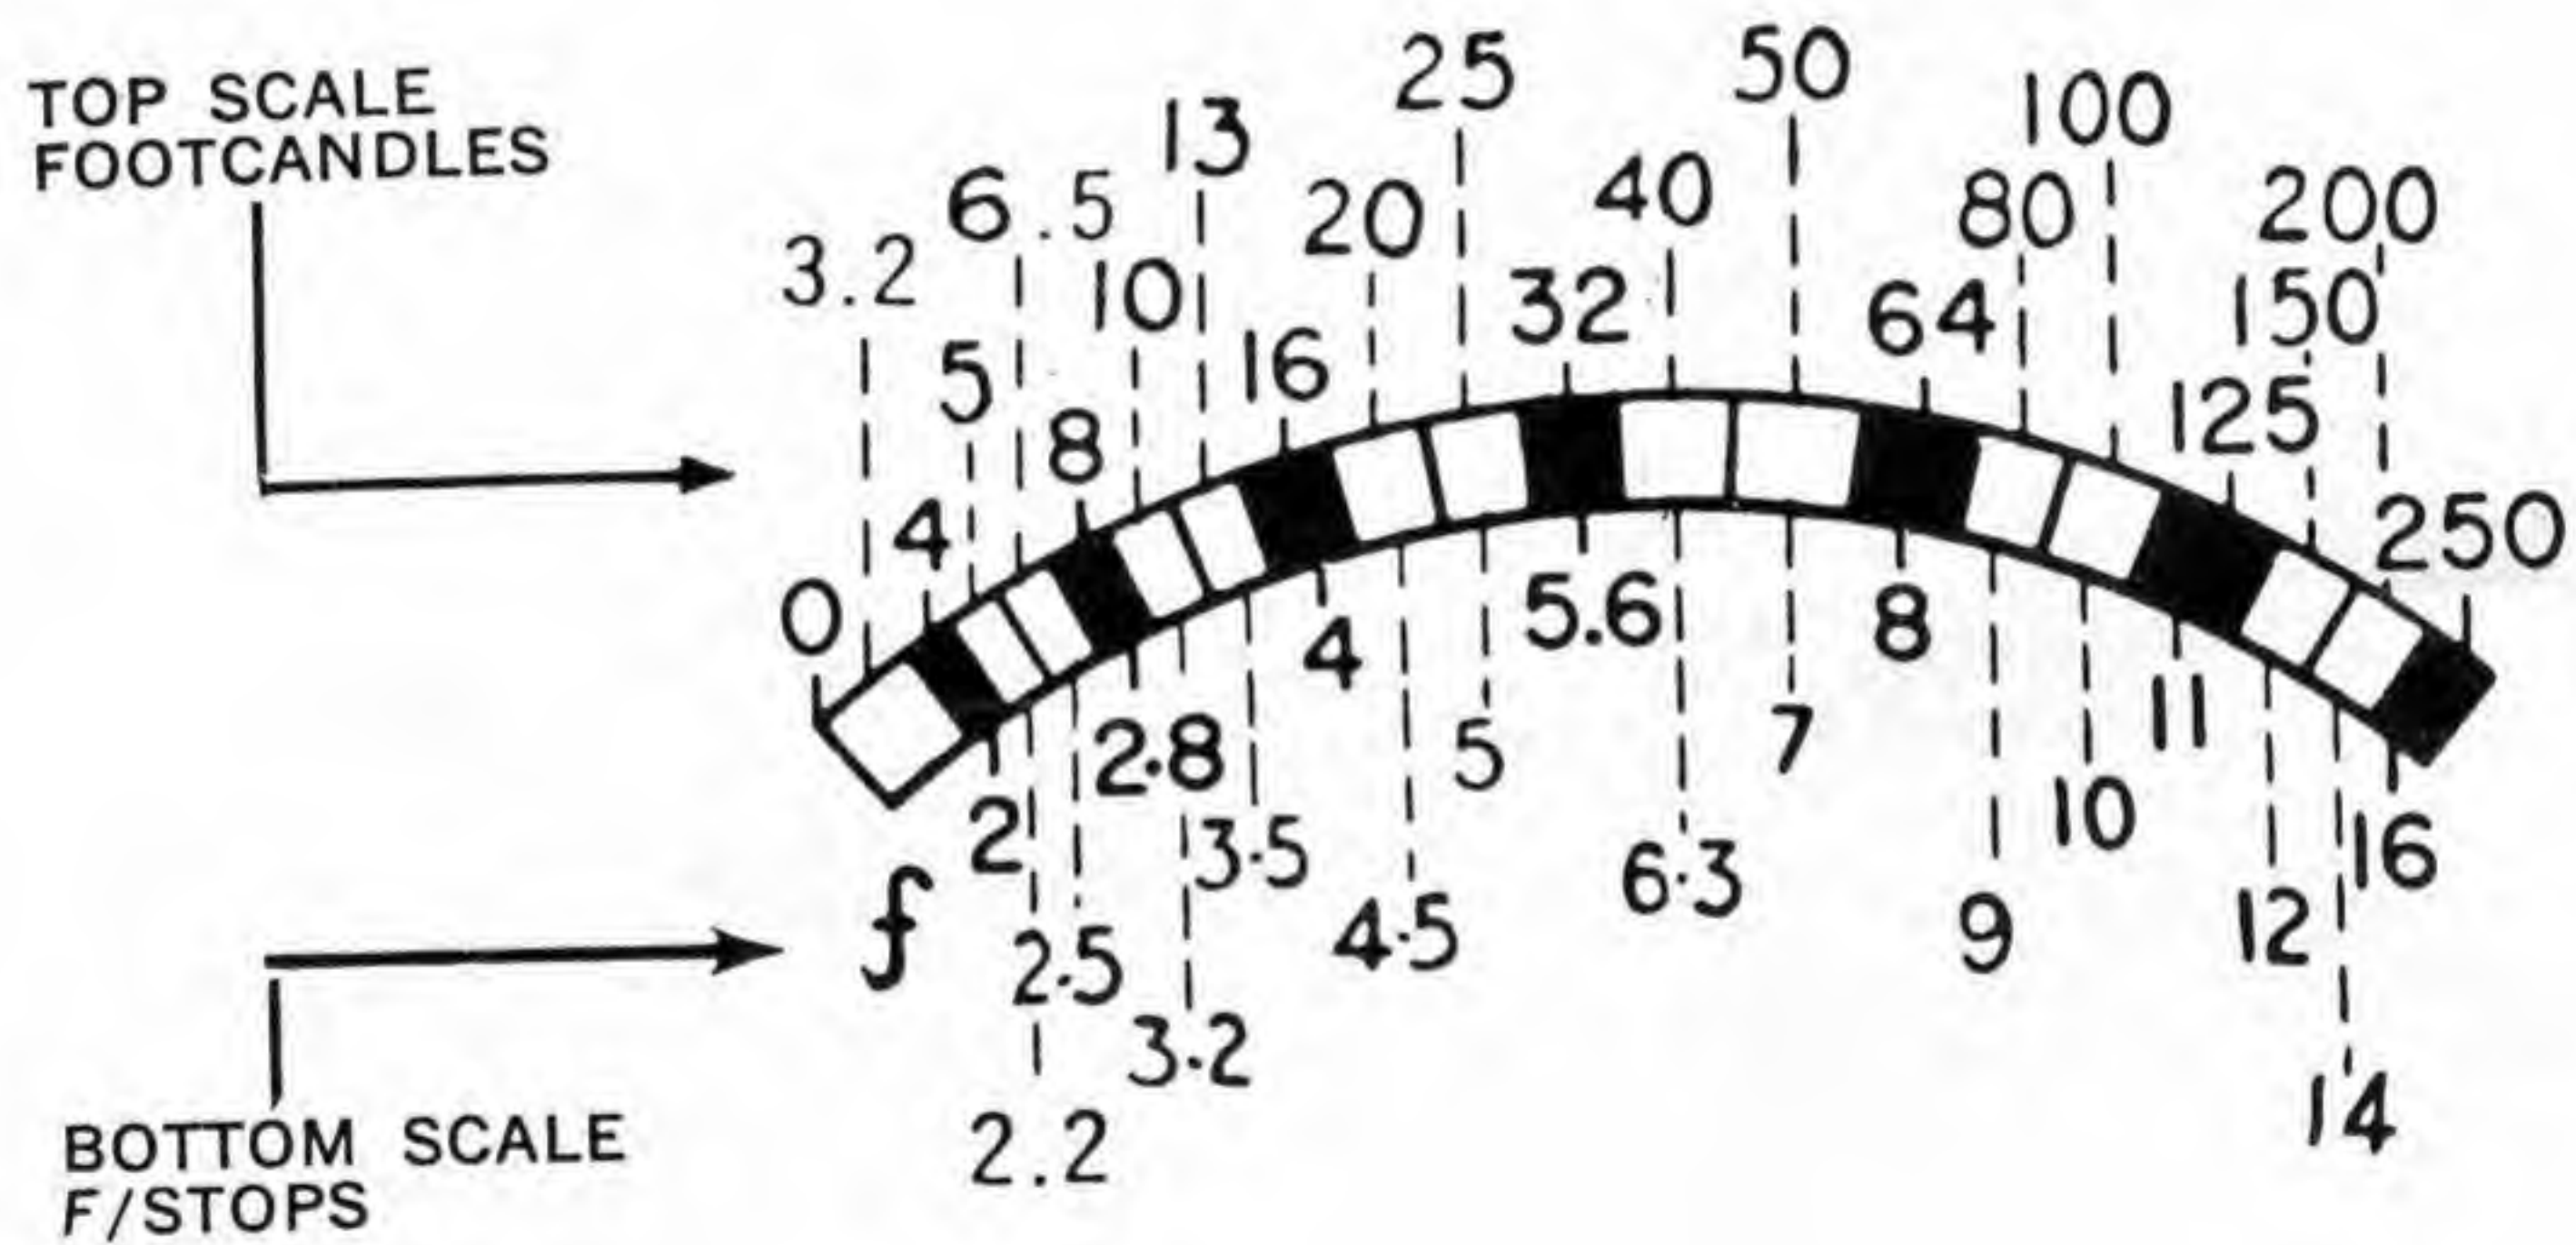
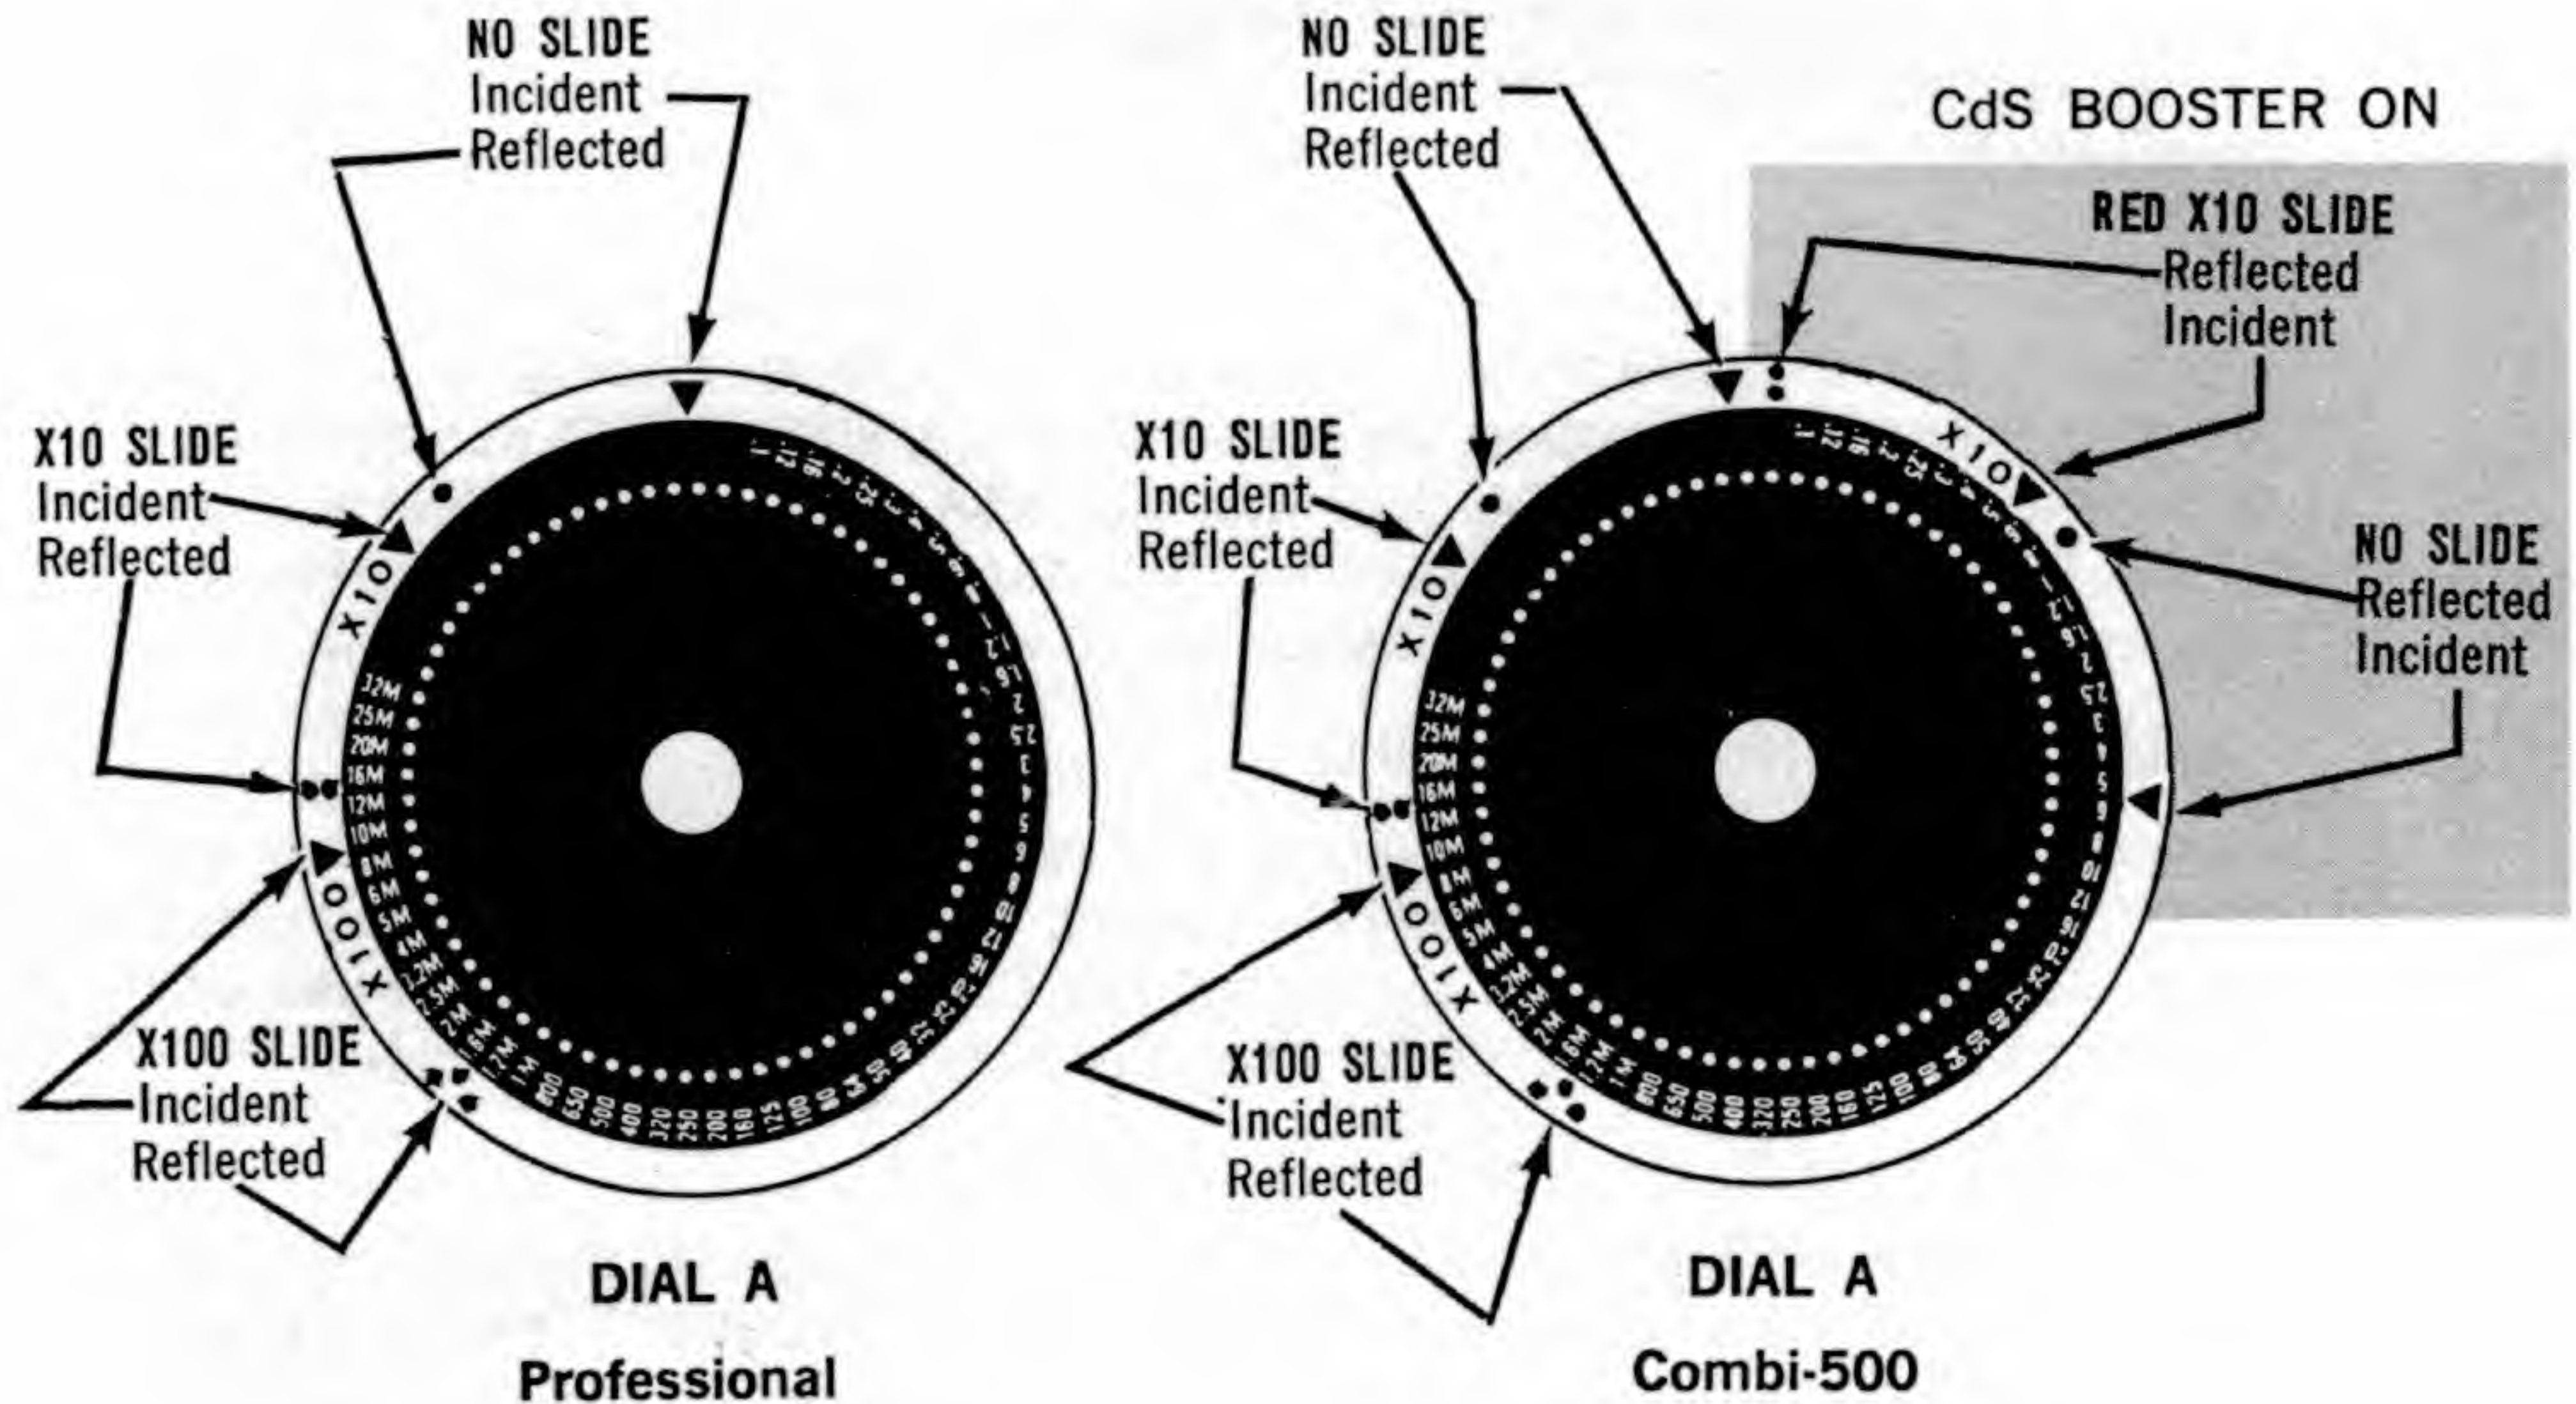

Figure 2
Figure 3
METER SCALE: (Figure 2 — Page 6)
For reading intermediate values on the meter scale, refer to Figure 2—Page 6.
TO USE: Insert the appropriate slide ALL THE WAY into the meter (2), take reading in the usual way (Page 7), and read your f/stop directly from meter scale (Figure 2 — Page 6) — bottom numbers — without referring to the computer.
Multiplying slides are used when the light level is greater than the full scale meter reading of 250 fc. The X10 is generally used for brightly lit interiors, studios, etc., and the X100 for daylight outdoors. With Combi-500 a special Red X10 slide is provided for use with Booster. Multiplying slides are used with the footcandle (upper) scale (Figure 2) and the marks X10 or X100 on the computer (Figure 3). They cannot be used for direct f/stop reading, but note the following important exception. On each multiplying slide an ASA number is also engraved; X100 has 12 ASA, X10 has 125 ASA, making these **dual purpose** slides. When these slides are used for their ASA values, **and not as multipliers**, you may read the f/stop direct, as you would with any standard ASA slide.
THE COMPUTER: (Figures 3 & 4 — Pages 12 and 15)
The Computer consists of 3 dials (2 movable and 1 fixed). On the large movable dial (Figure 3) there are several reference marks. The arrows are for *incident light* readings (Photosphere/Photodisk) and the dots are for *reflected light* readings (Photogrid). Use as follows: